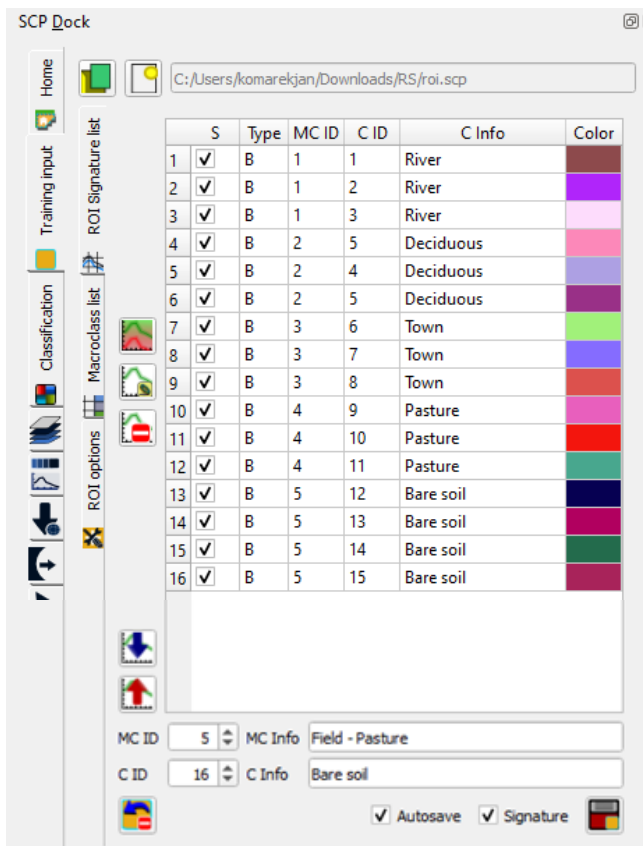

Figure 8. SCP Dock - Creating new ROI polygons for specific land cover classes.
6) Using the left mouse button, you can create a polygon in the image, using the right mouse button you finish the sketch. Once you finish sketch you have to specify its parameters. Within the SCP plugin, it is possible to specify a Macro-class (MC) and Sub-class (C). This is a two-level differentiation of class level, Macro-class means the first/higher level, while Sub-class is the second (more detailed) level. For example, you can distinguish Water as a Macro-class and River, Lake and Pond as Sub-classes. Once you have created a polygon a specify its details, you can click on *Save temporary ROI to training input* (the most bottom right button), Figure 8.